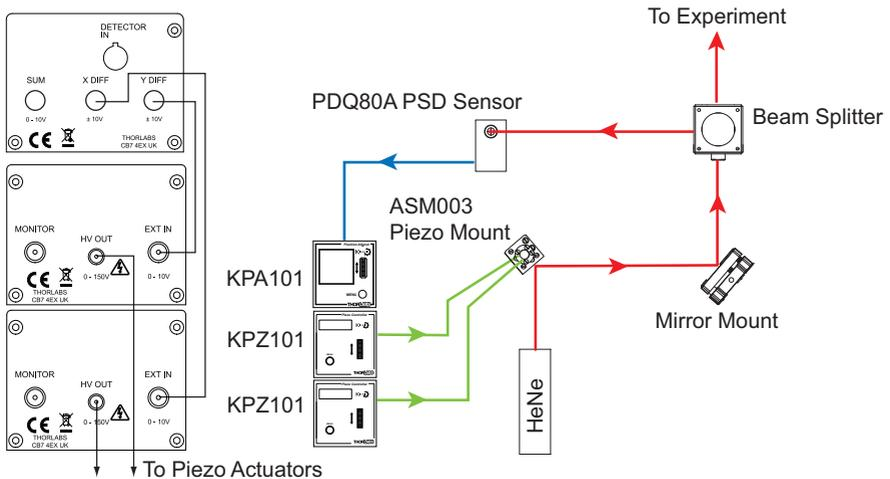

Fig. 4.10 Typical Stand Alone Set Up
The following procedure describes a typical set up, with the KPA101 position aligner cube being used with a pair of KPZ101 piezo driver cubes - see Fig. 4.10 for a typical system schematic diagram.
- 5) Install any mechanical components such as mirror holders etc. which may be required in the beam path - see Fig. 4.10 for a typical set up.
The default settings for the Position Demand Sense is 'Positive', which is correct for the set up shown in Fig. 4.10. If the check described at item (5) shows a negative demand sense, then it will be necessary to connect a PC to change the *Position Demand Sense* parameter in the Settings panel - see Section 6.2.
The default settings for the Position Demand Sense is 'Positive', which is correct for the set up shown in Fig. 4.10. If the check described at item (7) shows a negative demand sense, then it will be necessary to connect a PC to change the *Position Demand Sense* parameter in the Settings panel - see Section 6.2.
The default settings for the PID parameters are correct for the set up shown in Fig. 4.10. If any of the above signs are apparent, it will be necessary to connect a PC to adjust the PID settings in the Settings panel - see Section 6.2.